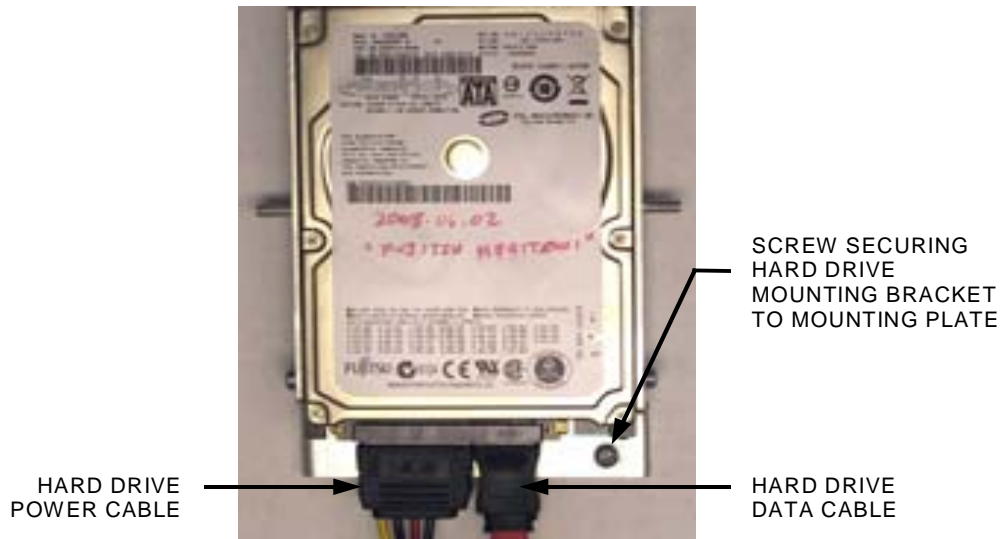

FIGURE 6 - CLOSEUP OF SATA HARD DRIVE
4. Disconnect the hard drive data and power cables from the hard drive (see Figure 6).
5. Remove the screw securing the hard drive mounting bracket to its mounting plate (see Figure 6). This screw will not be reused. Remove the hard drive from its mounting plate by sliding the assembly down and off the mounting plate.
1. Slide the hard drive assembly onto the game's mounting plate and screw it into place to secure it (see Figure 6).
2. Attach the hard drive data and power cables (see Figure 6).